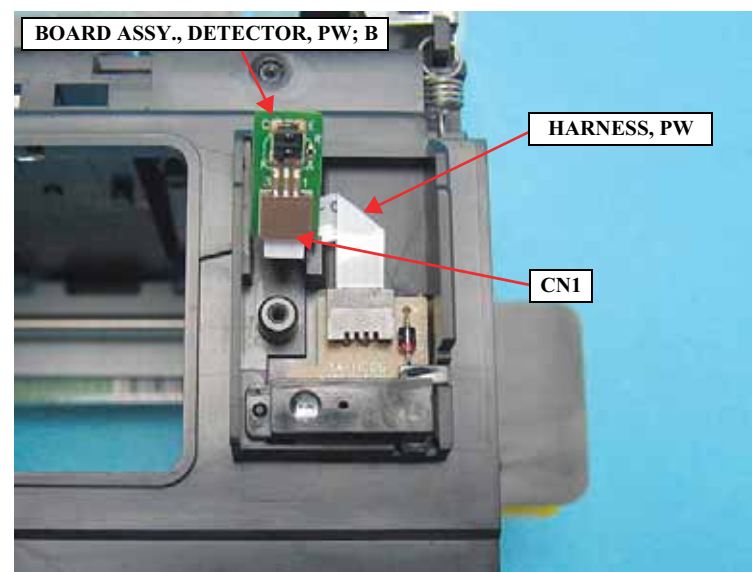

Figure 4-116. Removing the BOARD ASSY., DETECTOR, PW; B
3. Disconnect the HARNESS, PW from CN1 connector on the BOARD ASSY., DETECTOR, PW; B, and remove the BOARD ASSY., DETECTOR, PW; B. *See Figure 4-116.*